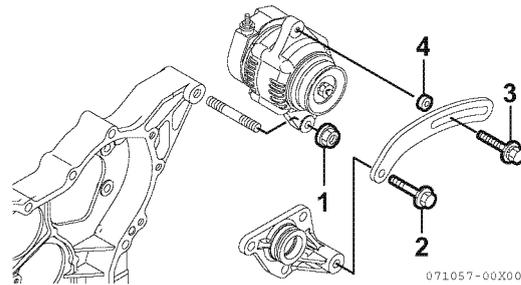

Figure 12-4
- 1- Loosen the alternator mounting nut (1, **Figure 12-4**) and belt adjuster mounting bolt (2, **Figure 12-4**), and remove the V-belt adjuster bolt (3, **Figure 12-4**) from the belt adjuster to loosen the V-belt. Here, do not loose the spacer (4, **Figure 12-4**).